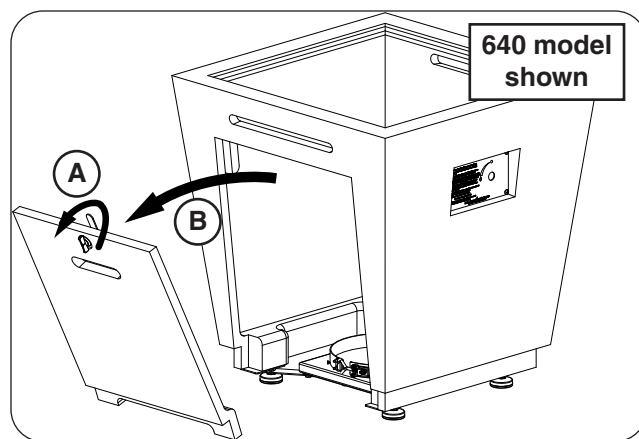

Fig. 28-1 Place base and remove door
1. **Carefully** remove the valve and burner assembly from the base, then **carefully** place the base in an appropriate location (see Fig. 28-1, and refer back to the LOCATION section if needed).
2. Remove the storage door by first turning the door handle counter-clockwise, then carefully pulling the door outward (see Fig. 28-1). Store in a safe location.